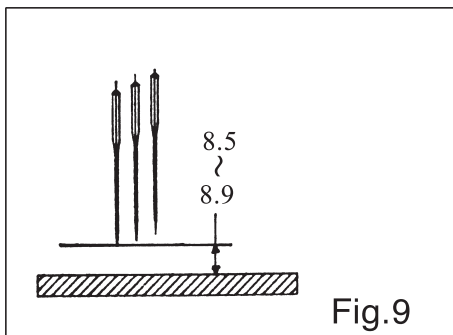

Fig.9
1. Please lift the Needle Bar to the highest position. During this time, the standard height between the longest right needle point and Needle Plate are 8.5~8.9 mm. (Fig. 9)